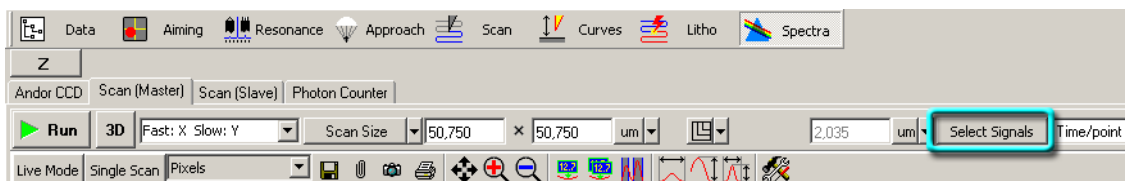

Fig. 12-41. Control panel of the **Scan** tab
1. Go to the **Scan** tab (Fig. 12-41) by clicking the corresponding title at the left top of the **Spectra** tab.